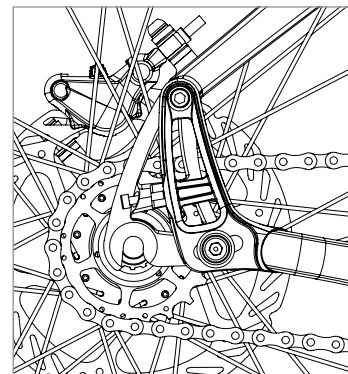

Figure 11
- Turn the driveside tension screw until proper chain tension is achieved and/or adequate tire clearance is reached (FIG 11)